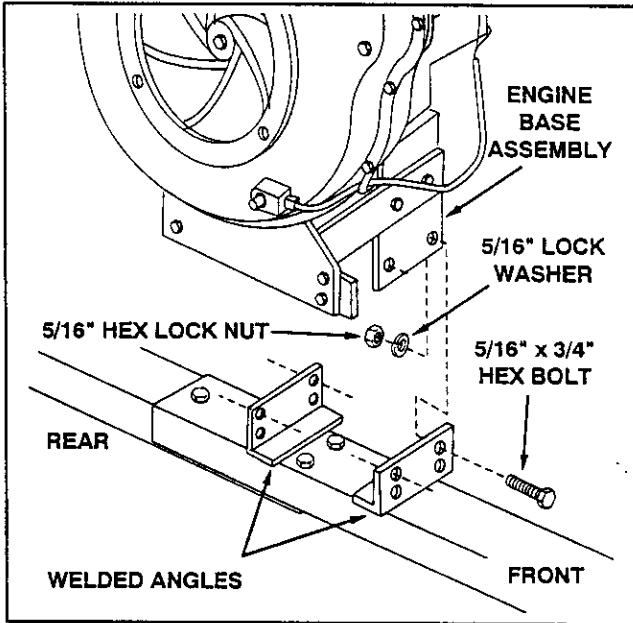

FIGURE 20
- Assemble the engine base assembly to the welded angles on the tongue using four 5/16" x 3/4" hex bolts, 5/16" lock washers and 5/16" hex lock nuts. **NOTE:** Use the upper set of holes in the welded angles. Make sure bolts are securely tightened. See figure 20.